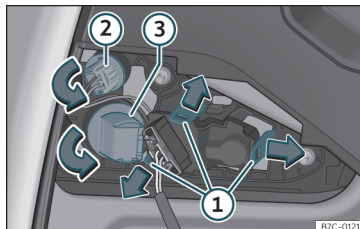

Fig. 52 Remove the bulb holder.
- Unlock the securing tabs from the bulb holder»» **Fig. 52 ①** or turn the bulb holder to the left **② and ③**.